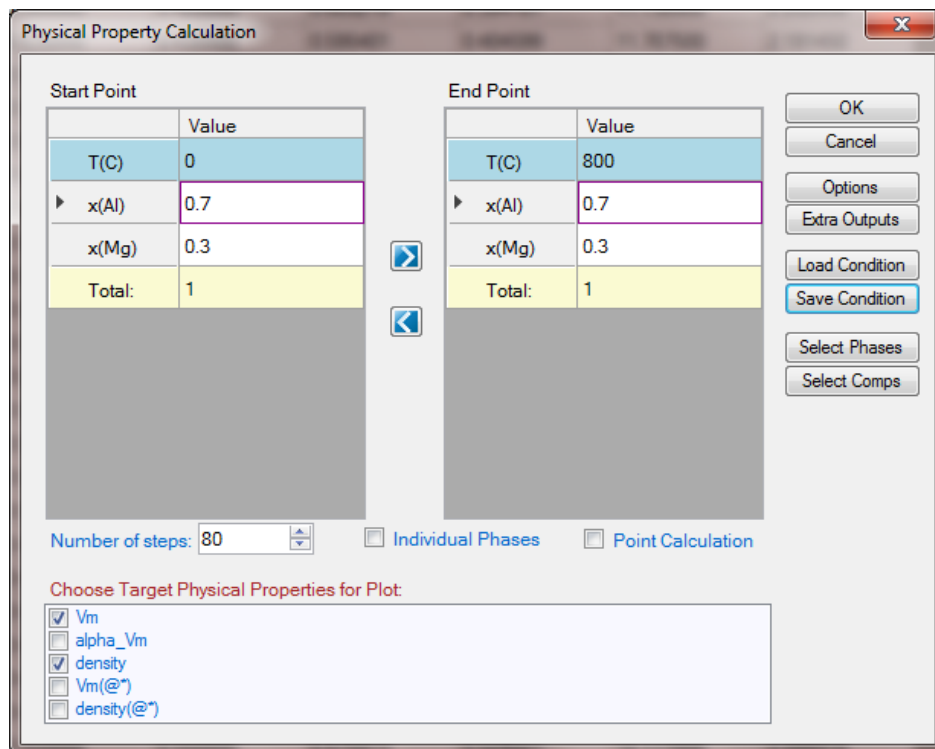

Figure 1.13.2: Setup calculation of molar volume and density from 0 to 800°C at a fixed composition
- Set Calculation Condition as shown in Figure 1.13.2. The property selected is Vm (molar volume) and density